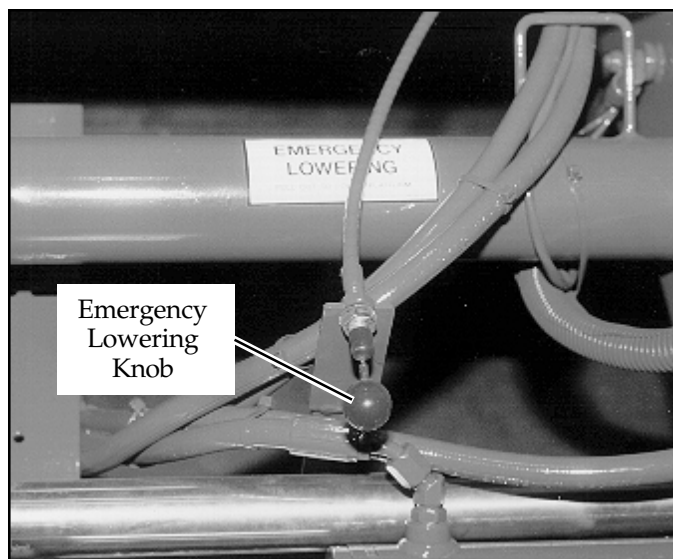

Figure 4: Emergency Lowering Knob
12. Open the chassis emergency lowering valve (Figure 4) to check for proper operation by pulling and holding the knob out. Once the platform is fully lowered, close the valve by releasing the knob.
The emergency lowering knob is located at the front of the machine at the base of the scissor assembly (Figure 4).